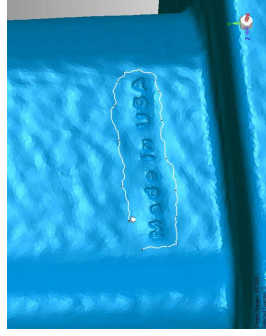

Figure 99 - Before
- Click a series of points around the words, as shown in **Figure 99**. A white line will appear through the points you pick. To close the loop, either press the **spacebar**, or click the **RMB**. Once the loop is closed, all connecting triangles in the area will be selected.